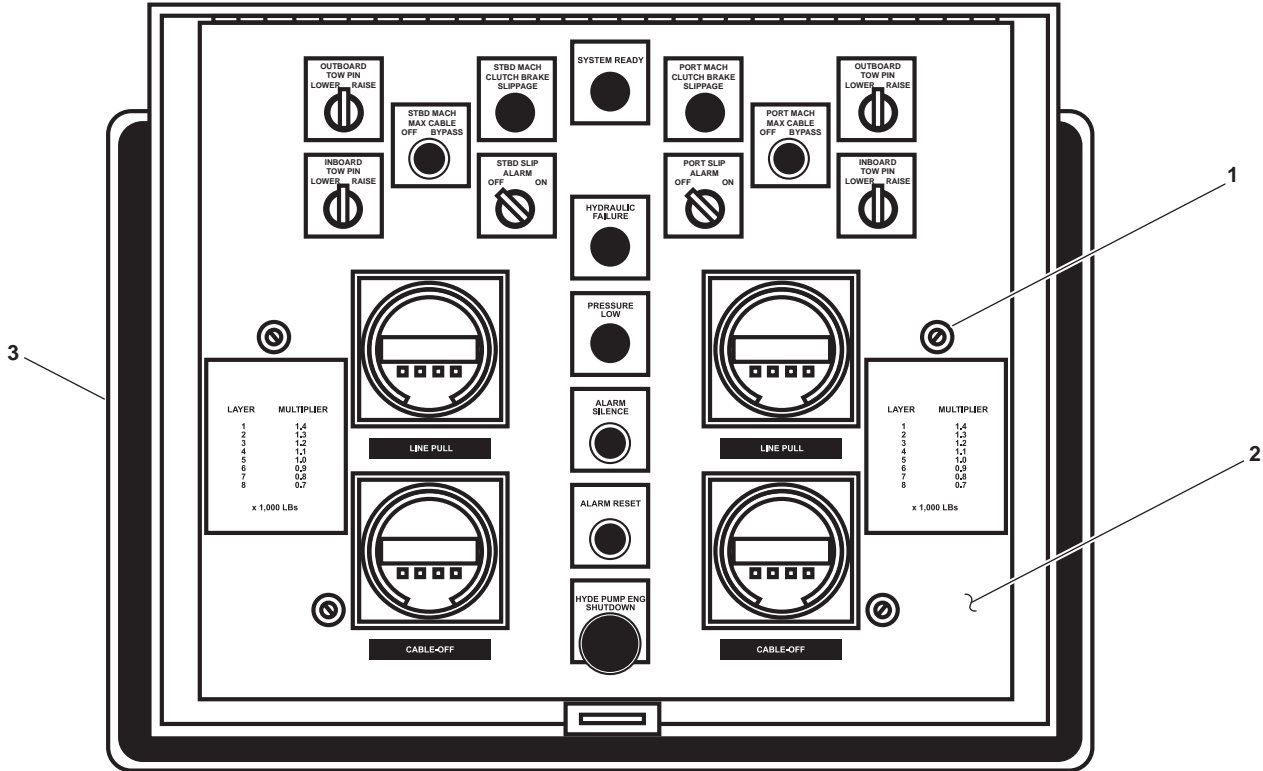
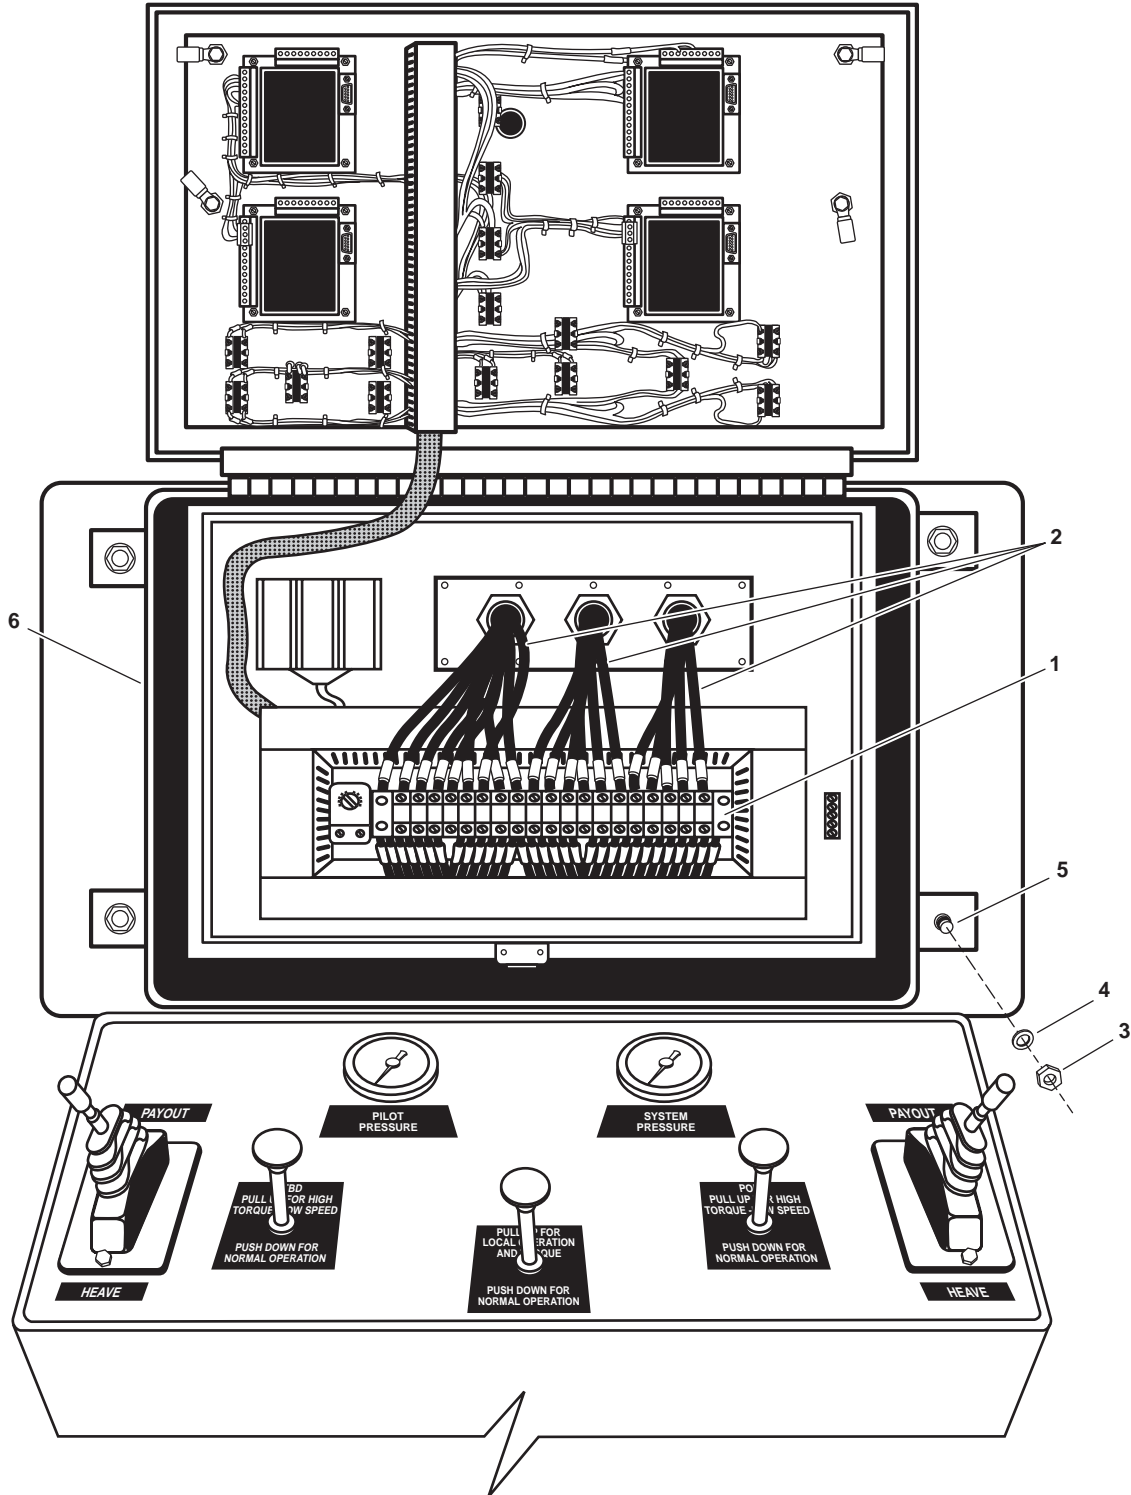

Figure 1. Control Panel
Figure 2. Control Panel Replacement
1. Loosen the four captive screws (figure 1, item 1) on the control panel cover (figure 1, item 2).
2. Open the control panel cover (figure 1, item 2).
3. Use a multimeter to check for voltage at the terminal block (figure 2, item 1). If voltage is present, ensure that the proper breaker is secured, locked out, and tagged out (FM 55-502). If no voltage is present, continue with the procedure.
4. Label and remove the wiring (figure 2, item 2) from the terminal block (figure 2, item 1).
5. Remove the four nuts (figure 2, item 3) and four flat washers (figure 2, item 4) from the studs (figure 2, item 5).
6. Remove the control panel (figure 2, item 6) from its base (figure 1, item 3).
1. Install the control panel (figure 2, item 6) on its base (figure 1, item 3).
2. Install the four nuts (figure 2, item 3) and the four flat washers (figure 2, item 4) on the studs (figure 2, item 5).
3. Connect the wiring (figure 2, item 2) to the terminal block (figure 2, item 1) using the labels from step 4 of Removal as a guide. Remove the labels.
4. Close the control panel cover (figure 1, item 2) and secure it with the four captive screws (figure 1, item 1).